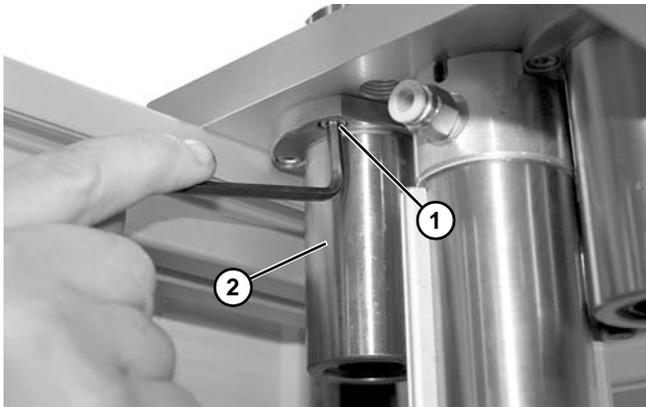

Figure 127
- Remove socket head screws (**Figure 127, item 1**) and one bearing (**Figure 127, item 2**) as shown.